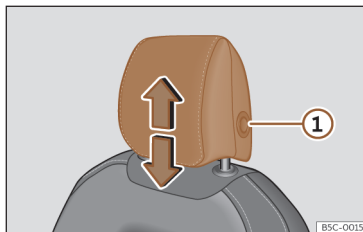
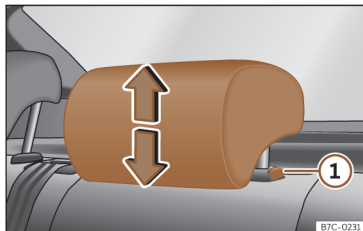

Fig. 108 Front seat: headrest adjustment.
Fig. 109 Rear headrest: headrest adjustment.
- Grab the sides of the headrests with both hands and push upwards to the desired position. To lower it, repeat the same action, pressing the ①»» Fig. 108 »» Fig. 109 but- ton on the side. »